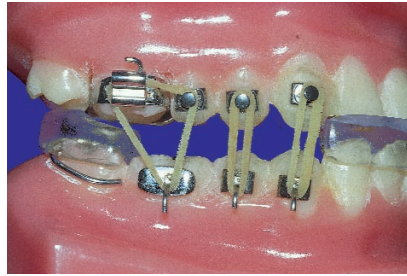

Figure 9: Proper elastic setup for eruption
8. The elastics (1/8 inch - 4 oz. medium) follow a 1:1, 1:1, 2:1 attachment formula (Figure 9). With the lower appliance in place holding the anterior incisors end to end about 2-4mm apart, the teeth align over each other such that the first elastic goes from upper cuspid to lower first bicuspid, the second elastic goes from upper first bicuspid to lower 2nd bicuspid, and the third elastic goes from both the upper 2nd bicuspid and first molar bracket down to the lower first molar.
9. In this initial configuration, the upper cuspid is stopped by the acrylic bite plane against its lingual surface, the upper first bicuspid is stopped by the soldered occlusal wire stop off the appliance body wire. The upper 2nd bicuspid is ligated with the elastic to the upper first molar. Together they are stopped by the occlusal contact of the distal portion of the upper first molar on the mesial edge of the posterior bite block of the mandibular appliance. This results in eruption of the mandibular bicuspids and first molars only. (Figure 9)